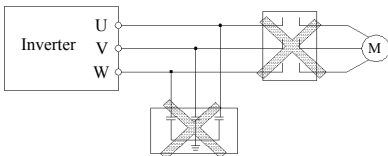

Fig.3-3 Banned magnetic control conductor and absorbing capacitance between inverter and motor
- (1) Assure power cut off completely for above 10 minutes before wiring, otherwise have danger of getting electric shock.
- (2) Forbid connecting power wire to output U, V, W of the inverter.
- (3) There is current leakage in the inverter and leak current of middle/high power inverter is bigger than 5mA, for safety reason, inverter and motor must be earthed safely, commonly use 3.5mm² above copper wire as ground wire and ground resistance smaller than 10Ω.
- (4) Before shipment compression resistance test of the inverter is passed, so user should not conduct compression resistance test again.
- (5) Should not assemble electromagnetic contactor and absorbing capacitance or other absorbing device, see Fig.3-3.
- (6) To be convenient to over current protect of input side and power off maintenance inverter should be connected to power supply through relay.
- (7) Connecting wire for relay input and output loop (X1~X8, OC1~OC4, FWD, REV), should use above 0.75mm² glued wire or shielding wire, one shielding layer end hung in the air, the other connected to grounding end(⊕), connecting wire shorter than 20m.